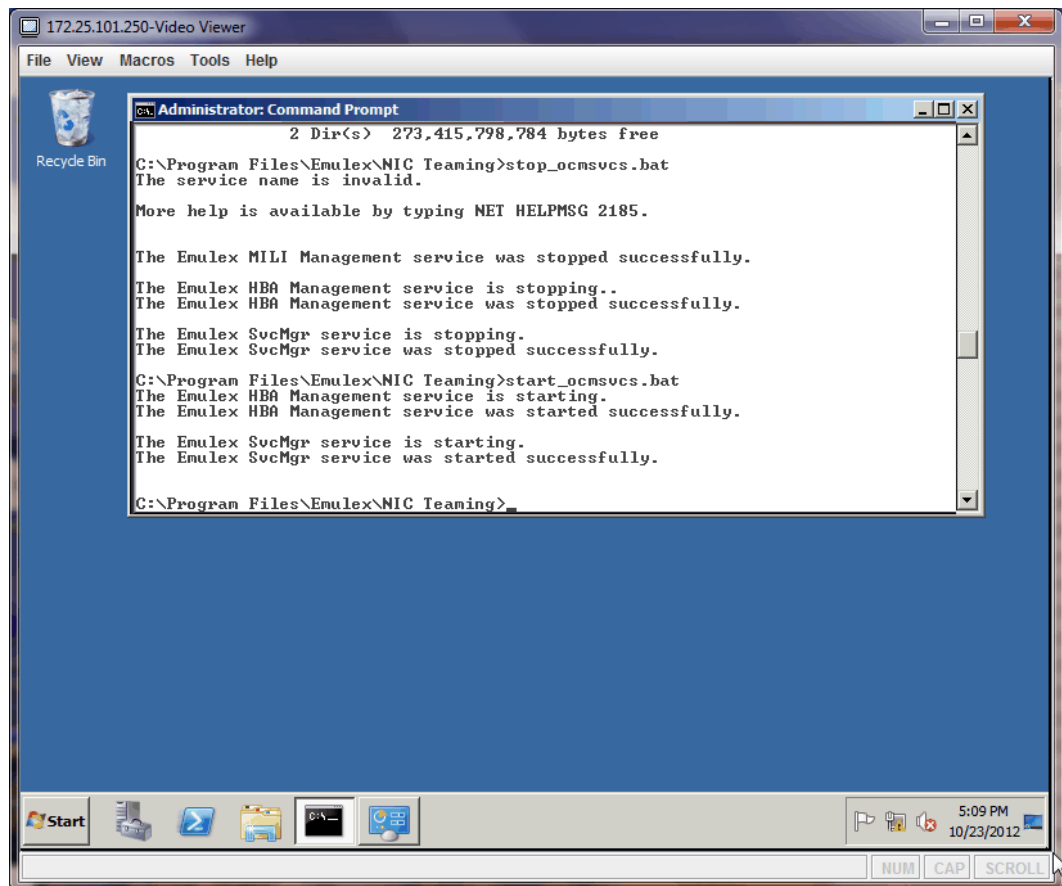

Figure 5-12 Restarting the OneCommand background process to verify that changes work across device reboots
11. Although usually not necessary, stop and restart the Emulex host bus adapter (HBA) management service that is shown in Figure 5-12 to ensure that your new configuration is working properly and will be active after the device reboots.